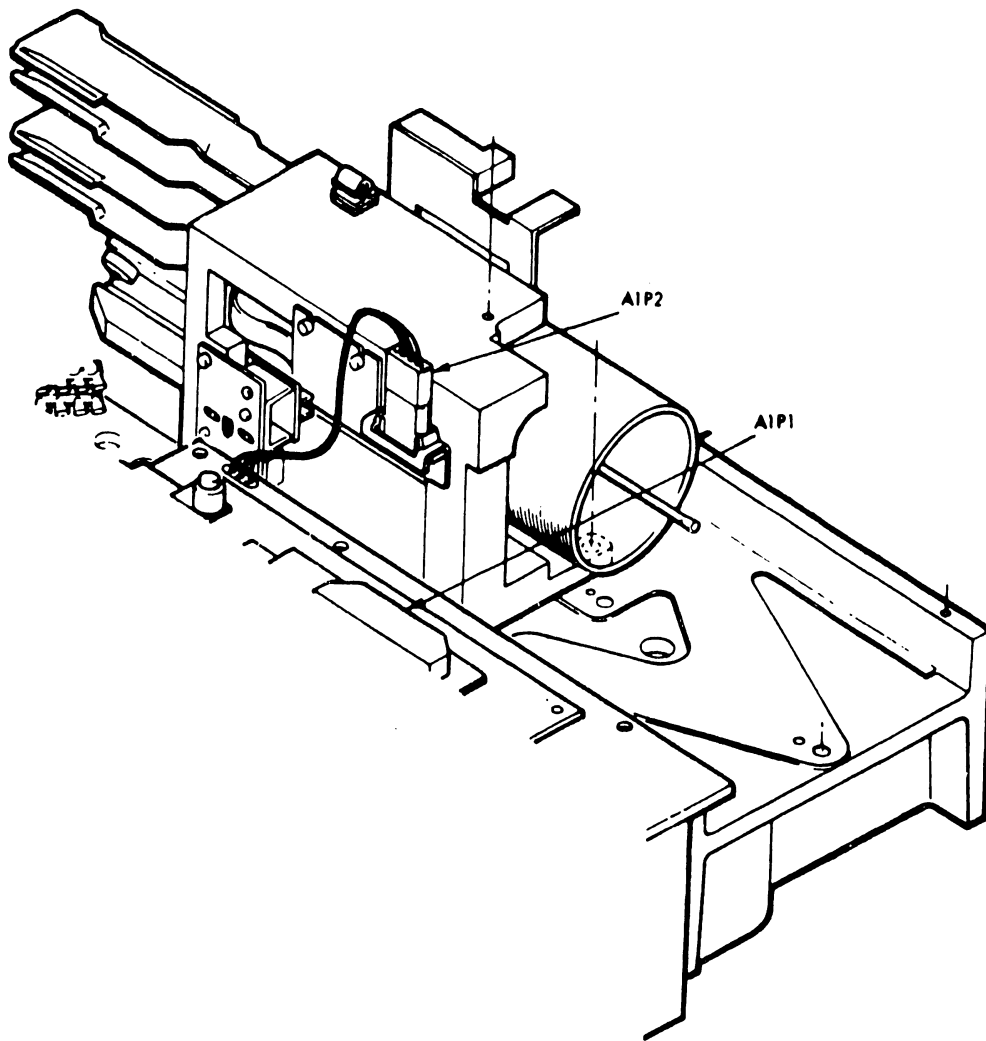

FIGURE 4-49 ACTUATOR ASSEMBLY (PARTIAL - SHOWING AIP2 LOCATION)
1. Remove A1P2 from the servo actuator (Figure 4-49).
5. Unplug A1P2 on the actuator assembly (Figure 4-49).